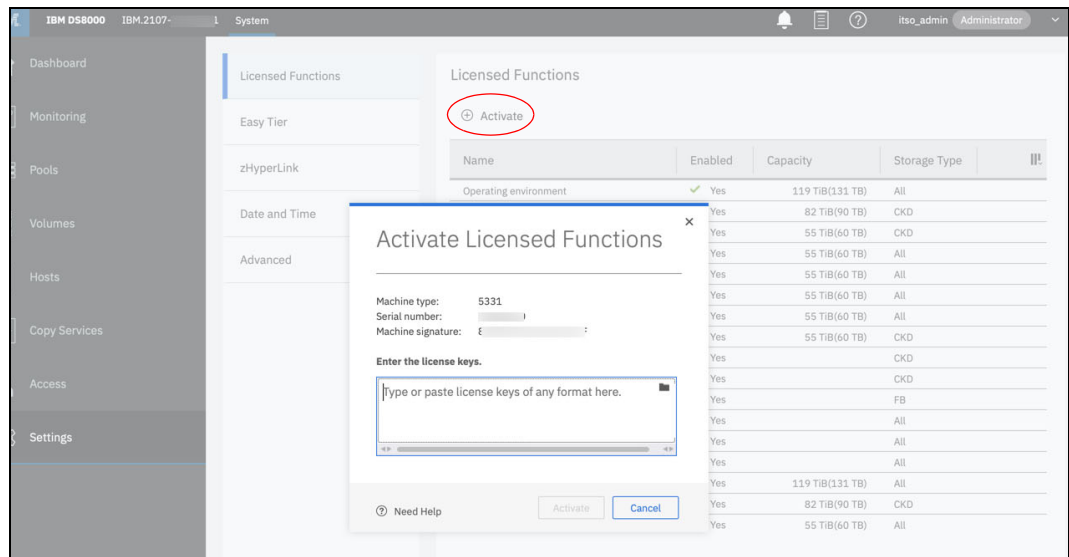

Figure 7-5 Licensed Functions
- If you must activate more feature keys after the initial installation, click the **Settings** icon in the left menu, select **Licensed Functions**, and click the **Activate** icon, which opens another window where you enter the keys, as shown in Figure 7-5.